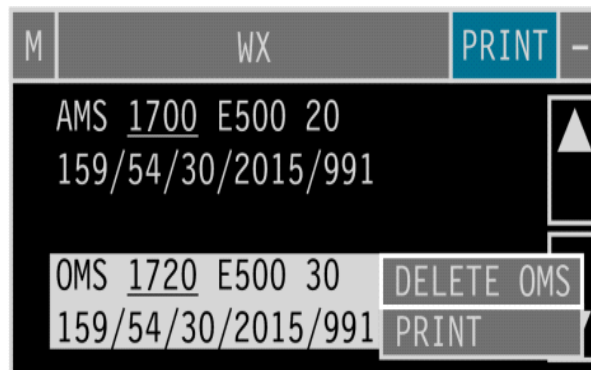

Figure 11–1. Weather Station Report View
Figure 11–1, Weather Station Report View, provides the user with relevant weather station name(s), time of the weather station reading, and the weather station reported information. The view may be accessed through the RA-Position Weather (WX) toolbar button and is initially displayed at a default location. The view is also suppressed via the WX toolbar button.
Figure 11–1 shows a selected entry invoking a pop-up **DELETE OMS** pop-up menu. The Weather Station Report View entries are automatically updated whenever new weather data for the requested reported station(s) is received. The user can add or delete weather stations to the Weather Station Report View. A pop-up Delete menu is provided per entry to allow the user to delete an individual entry.